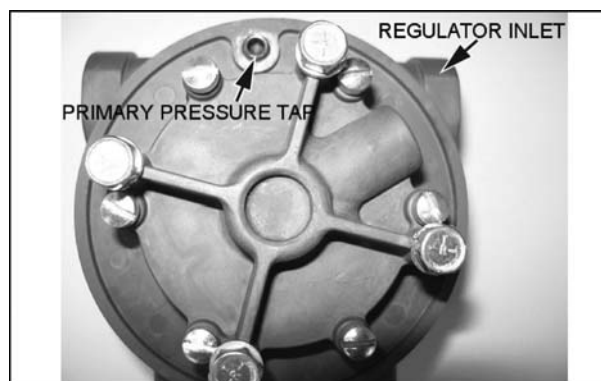

Figure 35. Primary Stage Test Connection
1. Remove the primary test port plug from the side of the regulator and install the 1/16" NPT hose barb fitting (Figure 35).
2. Connect a compressed air line (shop air ~100psi) to the liquid propane fuel inlet of the N-2007 regulator (Figure 35).